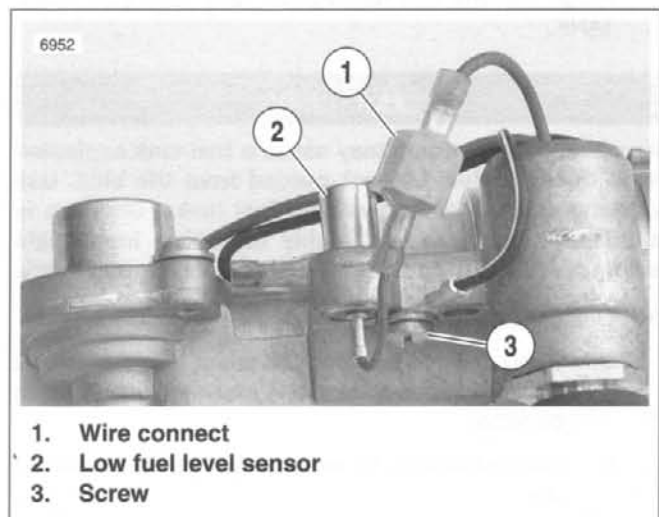

Figure 4-98. Low Fuel Level Sensor
2. See Figure 4-98. Pull apart the wire connect (1).
3. Remove screw (3) holding low fuel level sensor (2) in place. Remove sensor from housing.
4. Install **new** sensor (2). Secure ground wire terminal under screw (3). Tighten to 16-20 **in-lbs** (1.8-2.3 Nm).